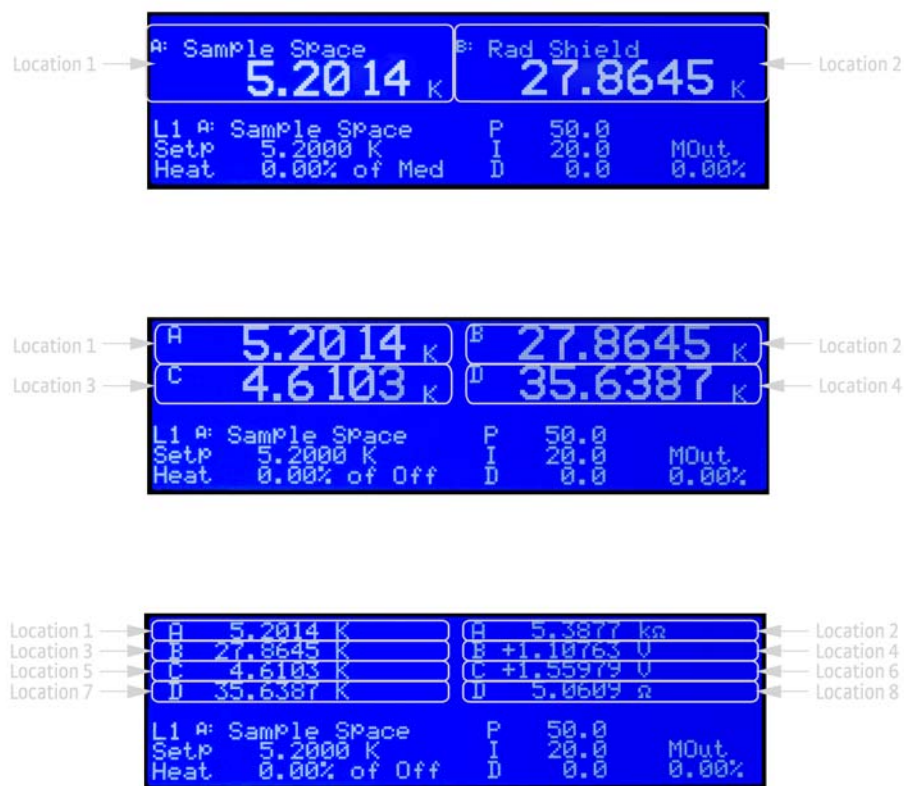

FIGURE 4-5 Top to bottom: Model 336 screen images showing 2, 4 and 8 display locations
- *Locations*: depending on the Number of Displays parameter, there can be anywhere from two to eight display locations for displaying sensor readings. The placement of a given display location on the front panel LCD depends on the Number of Displays setting (FIGURE 4-5).